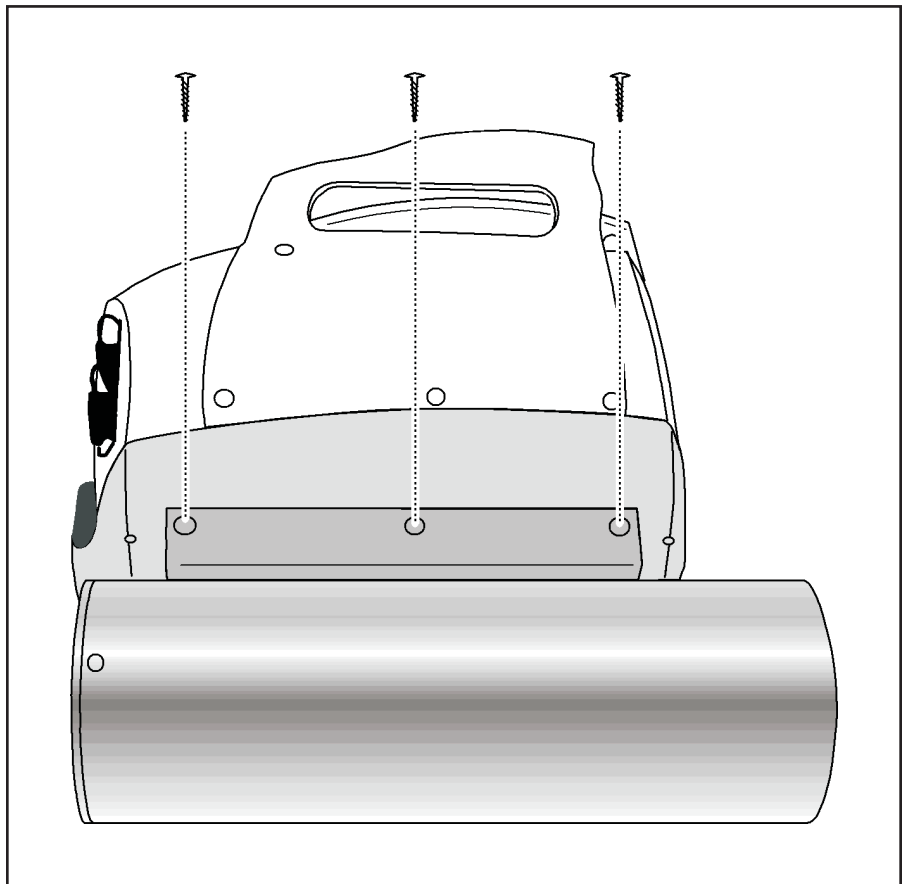

Figure 115 Removing the Probe's Mounting Screws
3. Remove the three mounting screws that secure the Neutron Probe (Figure 115).